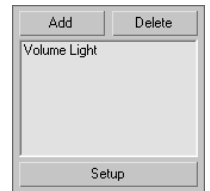

Figure 10.50
8. Quick Render your scene to take a look. Now you can see shadows. We didn't exclude the whole window with its frame because the inside frame is a nice detail to cast shadows. Figure 10.50 shows the render with the shadows.